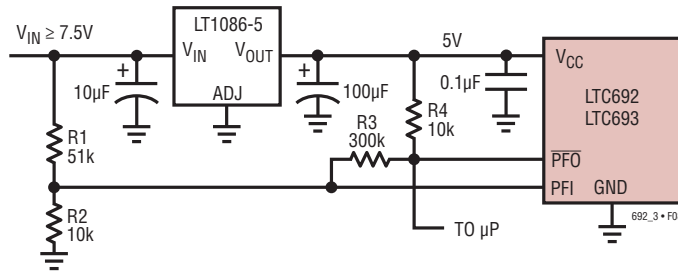

Figure 8. Monitoring *Unregulated* DC Supply with the LTC692/LTC693 Power-Fail Comparator
The LTC692/LTC693 generate a power failure output ( $\overline{\text{PFO}}$ ) for early warning of failure in the microprocessor's power supply. This is accomplished by comparing the power failure input (PFI) with an internal 1.3V reference.  $\overline{\text{PFO}}$  goes low when the voltage at the PFI pin is less than 1.3V. Typically PFI is driven by an external voltage divider (R1 and R2 in Figures 8 and 9) which senses either an unregulated DC input or a regulated 5V output. The voltage divider ratio can be chosen such that the voltage at the PFI pin falls below 1.3V, several milliseconds before the 5V supply falls below the maximum reset voltage threshold of 4.50V.  $\overline{\text{PFO}}$  is normally used to interrupt the microprocessor to execute shutdown procedure between  $\overline{\text{PFO}}$  and  $\overline{\text{RESET}}$  or RESET.
The power fail comparator, C3, does not have hysteresis. Hysteresis can be added however, by connecting a resistor between the  $\overline{\text{PFO}}$  output and the noninverting PFI input pin as shown in Figures 8 and 9. The upper and lower trip points in the comparator are established as follows:
**Example 1:** The circuit in Figure 8 demonstrates the use of the power-fail comparator to monitor the unregulated power supply input. Assuming the the rate of decay of the supply input  $V_{IN}$  is 100mV/ms and the total time to execute a shutdown procedure is 8ms. Also, the noise of  $V_{IN}$  is 200mV. With these assumptions in mind, we can reasonably set  $V_L = 7.25V$  which is 1.25V greater than the sum of maximum reset voltage threshold and the dropout voltage of LT®1086-5 (4.5V + 1.5V) and  $V_{HYSTERESIS} = 850mV$ .